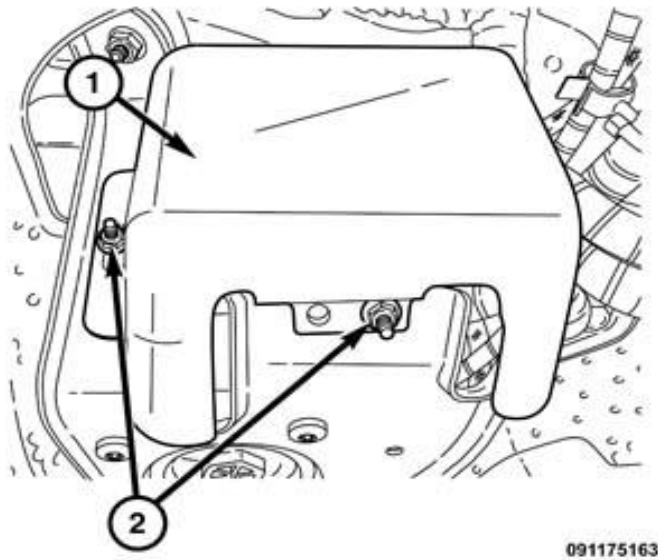

Fig. 14 Fuel Filter Shield
27. Remove the nuts (2) and the fuel filter shield (1) (Fig. 14).